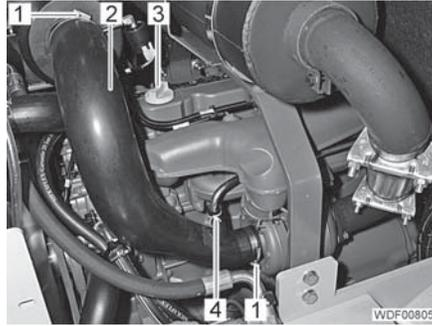
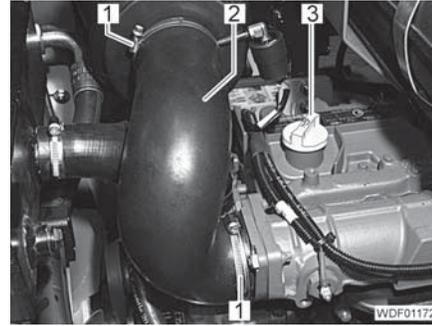

Fig. 2 Connection to the air filter
Fig. 3 Connection to the air filter (alternative)
- Release the 2 clamps (Fig. 2,1 or Fig. 3,1).
- Release the clamp (Fig. 2,4) (if present).
- Remove the hose (Fig. 2,2 or Fig. 3,2).
- Unscrew the cap (Fig. 2,3 or Fig. 3,3).
- Screw in the cover (Fig. 2,3 or Fig. 3,3).
- Attach the hose (Fig. 2,2 or Fig. 3,2) with clamps (Fig. 2,1 and 4 or Fig. 3,1) to the air filter, engine-breather hose and suction pipe.
- Tighten the 2 clamps (Fig. 2,1 or Fig. 3,1).
- Seal the hose with clamp (Fig. 2,4) (if present).